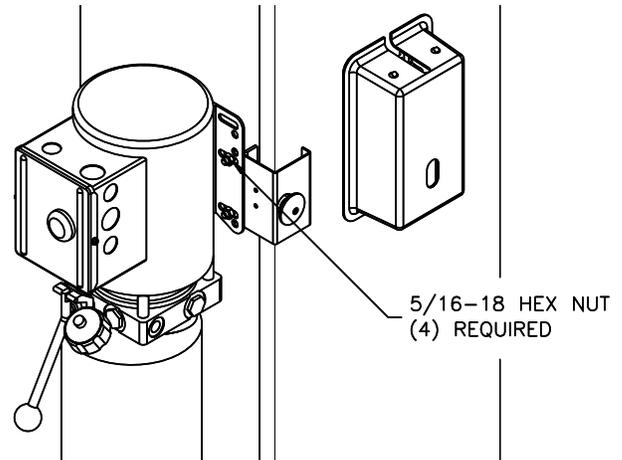

Fig. 10 – Power Unit Mounting
19) Mount Power Unit to power column as shown in Fig. 10. The mounting hardware, (4) 5/16"-18 hex nuts, are pre-installed on power unit mounting bracket.